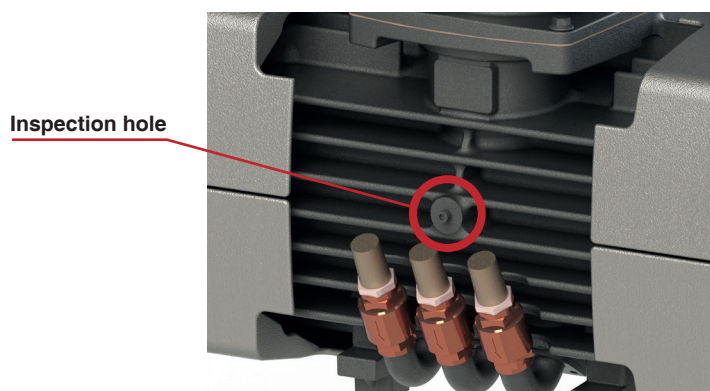

Figure 10
- 7) trace again the round profile at the height of the inspection hole (see Figure 10);